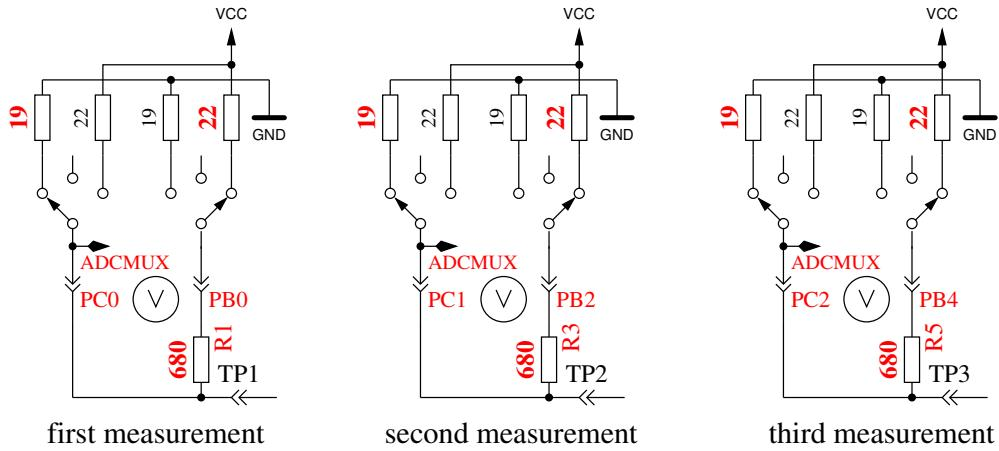

Figure 5.63. Measurement of internal resistance of Port C switched to GND
5. **This step tests the capability of GND (-) connected  $470k\Omega$  resistors (H) to pull the test pins to GND.** Row 1 shows the text “RH-”. Row 2 should display zero for all three pins.
6. **This step tests the capability of VCC (+) connected  $470k\Omega$  resistors (H) to pull the test pins to VCC (+).** Row 1 shows the text “RH+”. The results are shown als difference to VCC and should be near zero. Great differences from the best value for test 5 and 6 are errors such as isolation problem, flux material or damaged port.
8. **Measuring of internal resistance of pin output switched to the GND signal.** This test and the following tests will only be done, if the option AUTO\_CAL is selected. The internal resistance of the port C outputs switched to GND (-) are measured with the current of to VCC (+) switched  $680\Omega$  resistors, see Figure 5.63. Only the three pins of the ADC port are measured, the resistor port B (PB0,PB2 and PB4) can not be measured without hardware modification. It is assumed that the port resistance of the different ports are nearly identical. The resistor value will be shown in the next test.